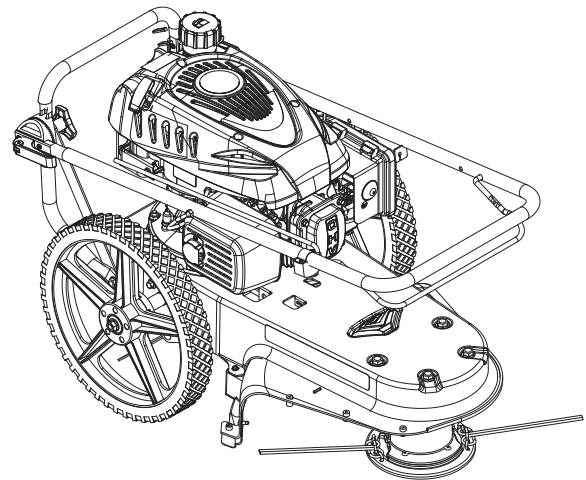

FIGURE 2
4. Pull the mower out of the carton. **SEE FIGURE 2.**